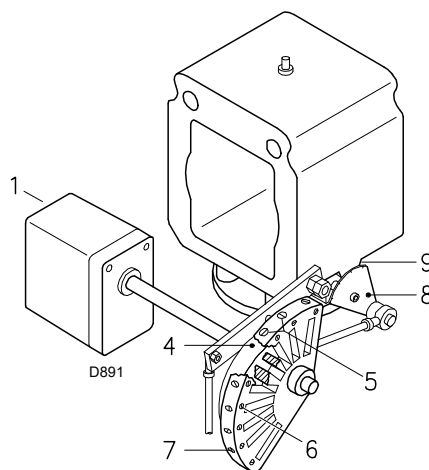
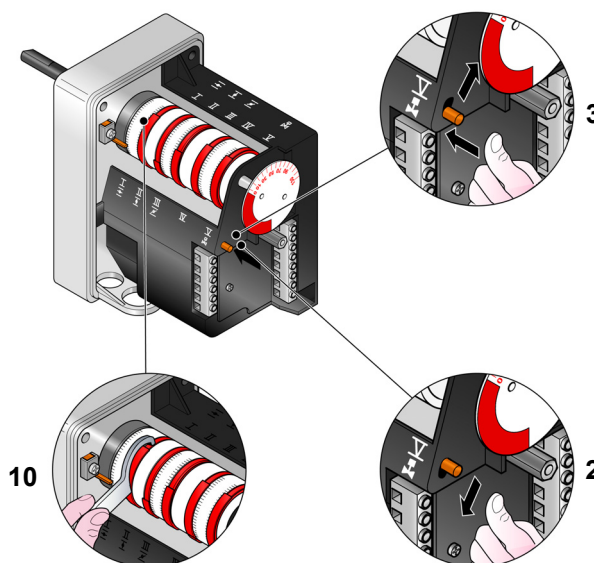
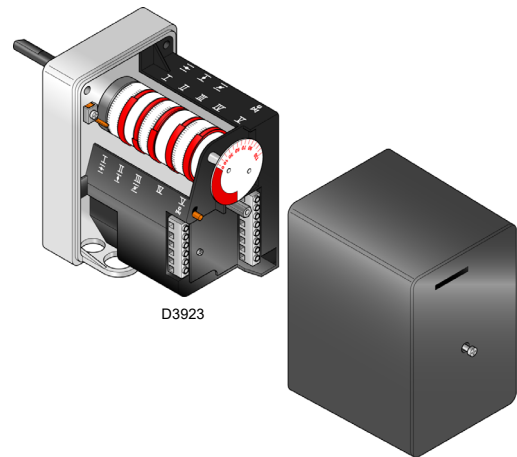

Fig. 36
Fig. 37
Fig. 38
The air is adjusted by changing the angle of cam III)(Fig. 38, on page 29) and by using the selector 2)(Fig. 35, on page 26).
To adjust the cam of the servomotor, see Fig. 37.
The air is adjusted by varying the angle of cam I) (Fig. 38, on page 29) and by using the selector 2)(Fig. 35, on page 26).
Key (Fig. 36)
MIN output must be selected within the firing rate range indicated on Fig. 2, on page 9. Press button 2)(Fig. 35, on page 26) "Output decrease" and keep it pressed until the servomotor reaches (Fig. 37) the factory adjustment.
Progressively adjust the end profile of the mechanical cam 4) Fig. 36, on page 27, using the screws 5).
Bring the output to 800 kW using the screws 5) of the mechanical cam (Fig. 38, on page 29) and check the emissions.
The regulation of the air is carried out using the angle of the cam III) of the servomotor (Fig. 38, on page 29) and by using the selector 2)(Fig. 35, on page 26).
To adjust the cam of the servomotor, see Fig. 37).
To adjust cam III, see Fig. 37.
The passage from one position to the next one is obtained by pressing the button 2) on the symbol (+) or (-) (Fig. 35, on page 26). Press button 2)(Fig. 35, on page 26) "Output increase" briefly so that the servomotor rotates by about 20°, see servomotor graduated index Fig. 37 and air damper graduated index 5)(Fig. 36 on page 27).
Screw or unscrew the screw 5) of the mechanical cam (Fig. 36, on page 27) to increase or decrease the gas output so as to adjust it to the corresponding air output, to obtain optimal combustion.
Switch off the burner using switch 1)(Fig. 35), OFF position, release the mechanical cam I)(Fig. 38) to separate the gears of the servomotor, pressing and moving downwards button 3)(Fig. 37), then manually rotate the mechanical cam I)(Fig. 37) backwards and forwards a few times to check that the movement is smooth and without any hindrance.
It is recommended that the mechanical cam 5)(Fig. 36 on page 27) be bound again to the servomotor by shifting button 3)(Fig. 37) upwards.
- 6s:** Servomotor start-up: turn to the right by 130°, i.e. until the contact intervenes on cam I (Fig. 38, on page 29). The air damper is positioned to MAX output.
- 80s:** The servomotor turns to the left to reach the angle set on cam III (Fig. 38, on page 29) for the MIN output.
- 112s:** The air damper and the gas butterfly valve reach the MIN output position (with cam III)(Fig. 38, on page 29) at 30°.